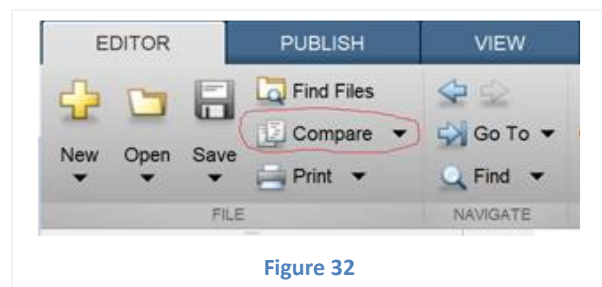

Figure 32
- Verify that the functionality is indeed the same, just distributed over different files. A good way to do so is the MATLAB code comparison tool (Figure 32) which you can use to compare the original CLASS files from Exercise IV with the new versions of Exercise V.